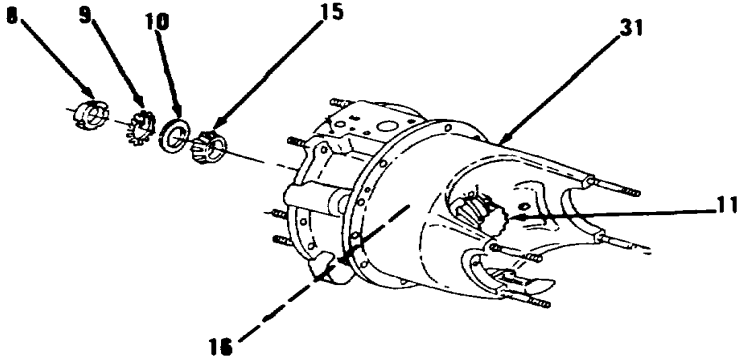

Figure 14-145.
- 14. Using hoist and chain, position carrier (31) on shaft (11), seating in cup (13).
- 15. Heat cone bearing (15) in oil to 275 degrees F and install on shaft (11), seating in cup (16, Figure 14-145).
- 16. Using hoist and chain, raise carrier (31) and remove wood block.
- 17. Remove hoist and chain and bracket from carrier (31).
- 18. Install washer (10), lock (9) and nut (8). Do not tighten nut (8).